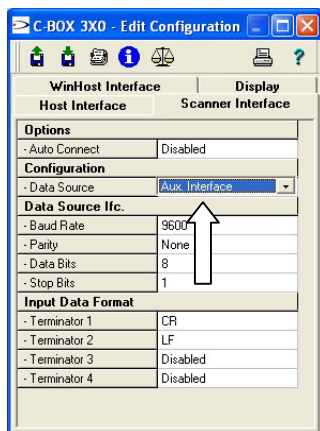

Figure 18 – WinHost Configuration Menu for C-Box 3x0
4. From the SCANNER INTERFACE menu, set **Data Source: Aux Interface** and save the configuration to the C-Box 3x0 (refer to Figure 18);